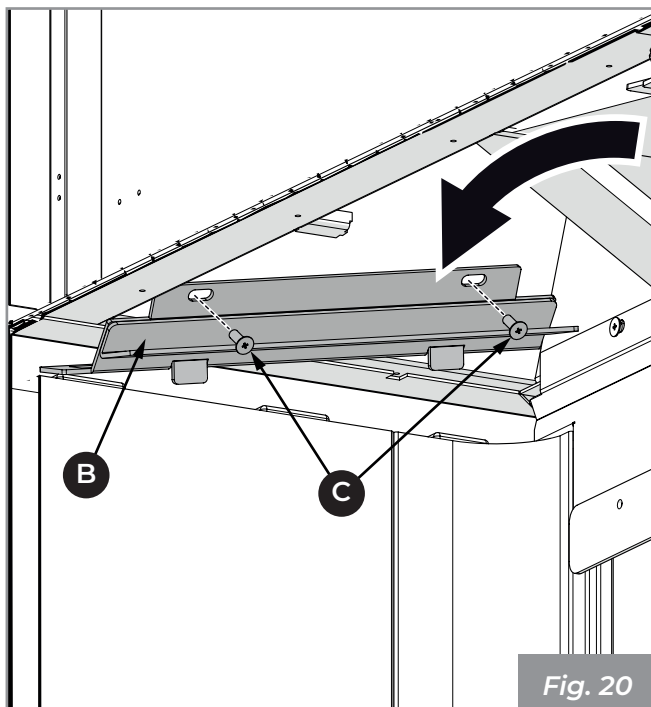

Fig. 20
- 2) Block the refractory with the bracket (B) being sure to insert the slots in the relevant projections (C) and secure it with the appropriate screws (C) (Fig. 20).
- 3) Proceed in the same way on the opposite side (in the MX R and MX L models there are only the elbow and the upper bracket (B - Fig. 20) due to the presence of the side glass).